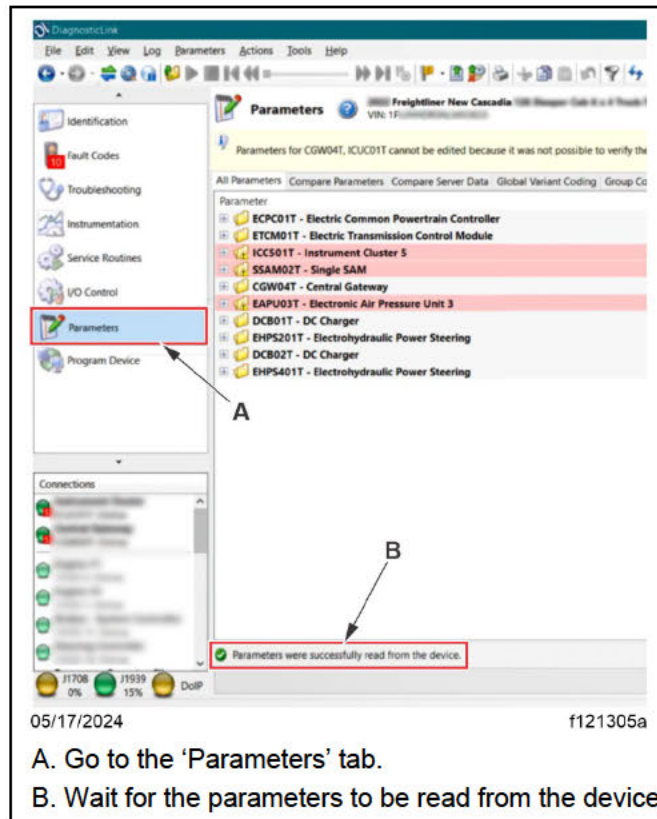

Fig. 1, Reading the ECU Parameters
7. Go to the 'Parameters' tab. See Fig. 1.